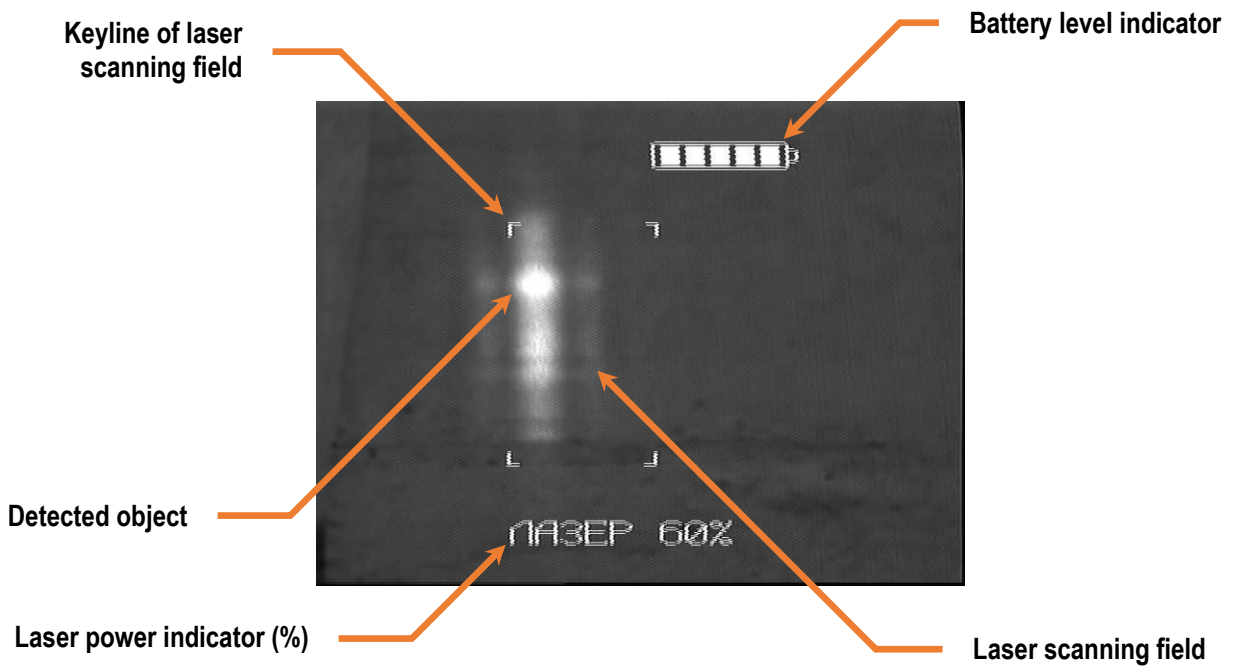

Fig.4. Example of image obtained with the help of «GCU-OSD10».
The level of battery charge is indicated in the right top corner of the image (Fig. 4). When the battery is flat the instrument is automatically switched off.
1.4.4. Example of image obtained with the help of «GCU-OSD10», Fig. 4.